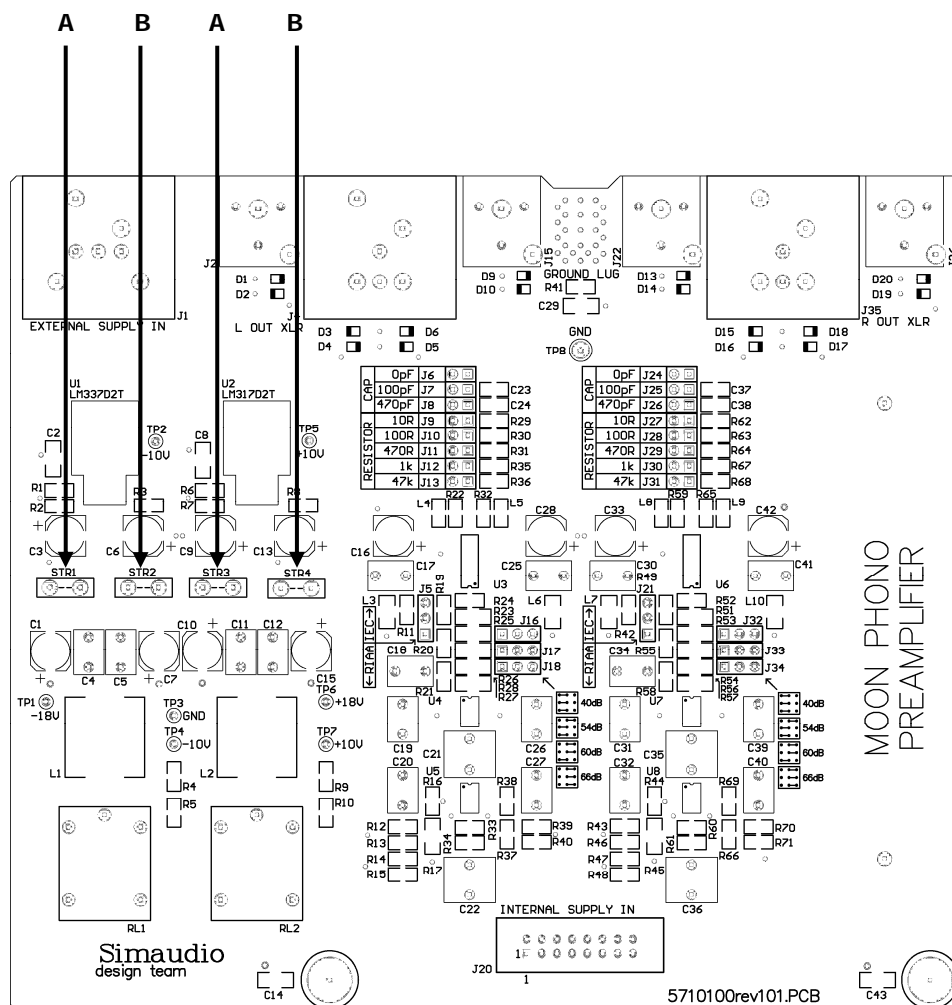

Figure 10: MOON 310LP Circuit Board layout
The **MOON 310LP Phono Preamplifier** can be operated with the optional **MOON 320S Power Supply** (purchased separately). Referring to figure 10 below, you will see an array of four (4) jumper sockets labeled STR1, STR2, STR3 and STR4. The factory default position for the 2 jumpers is in sockets STR2 and STR4 (positions B in figure 10).
To properly use the **MOON 310LP** in conjunction with the **MOON 320S**, you will need to move these 2 jumpers into sockets STR1 and STR3 (positions A in figure 10). For further details, please refer to your **MOON 320S** owner's manual.
In the event that you are using the **MOON P-8 Controller** as power supply, these 2 jumpers must remain in sockets STR2 and STR4 (positions B in figure 10).